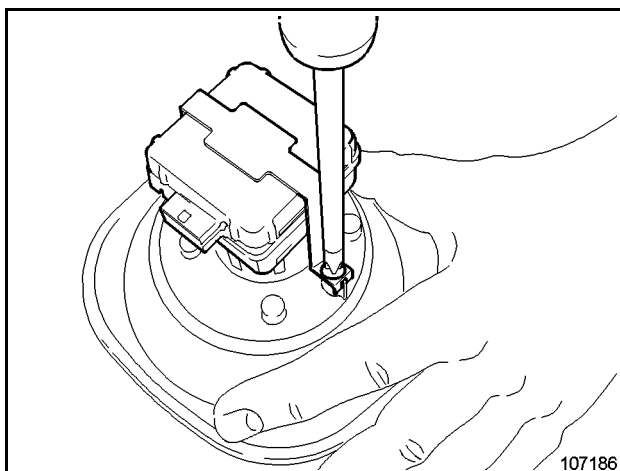

Fig. 3-33
- Unscrew Xenon lamp holding clamp (Fig. 3-33).